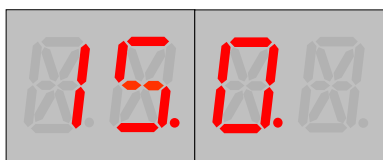

Figure 7b: Bit Number displayed.
2. Press SELECT. The Bit Number is displayed. See **Figure 7b**.
6. BACK will stop display of Bit values and return to navigating Bit Numbers. See **Figures 7b and 7c**.